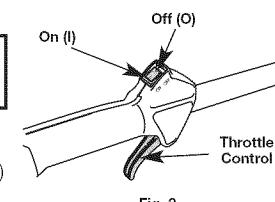

Fig. 3
NOTE: There is no need to turn the unit on. The On/Off Control is in the ON (I) position at all times (Fig. 3).
- Press and hold On/Off Control in the OFF (O) position until engine comes to a complete stop (Fig. 3).